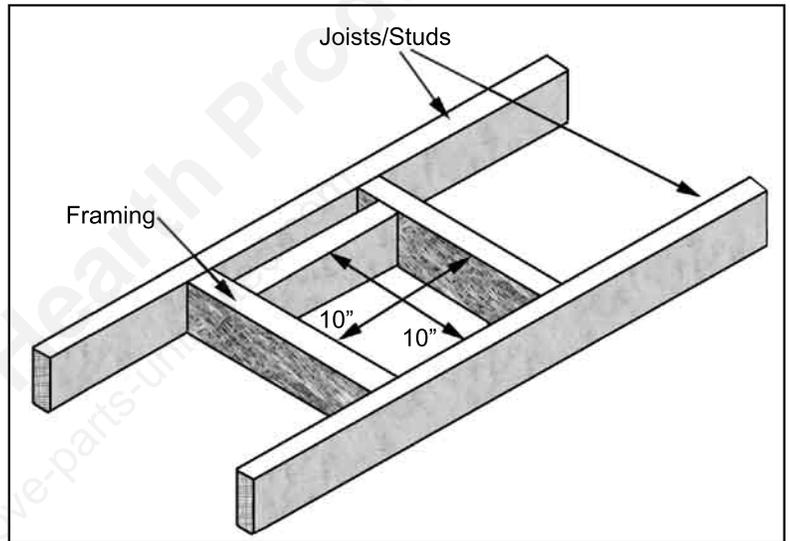
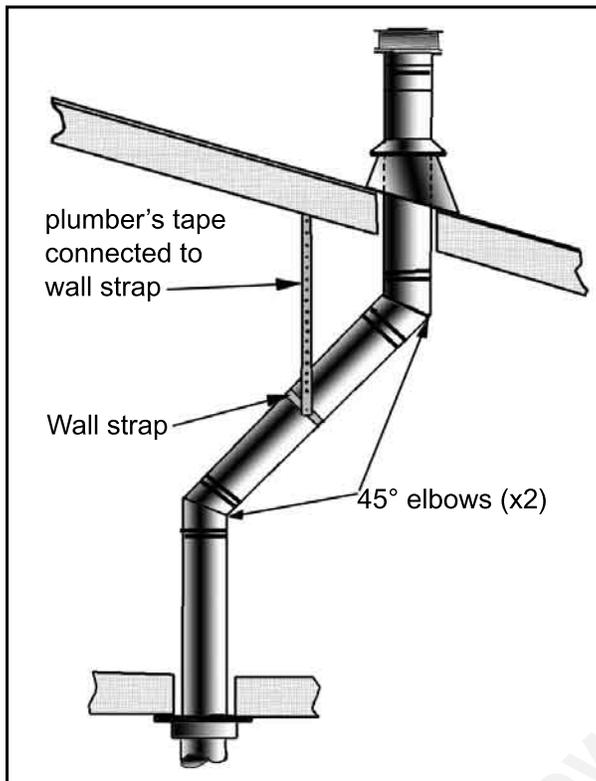
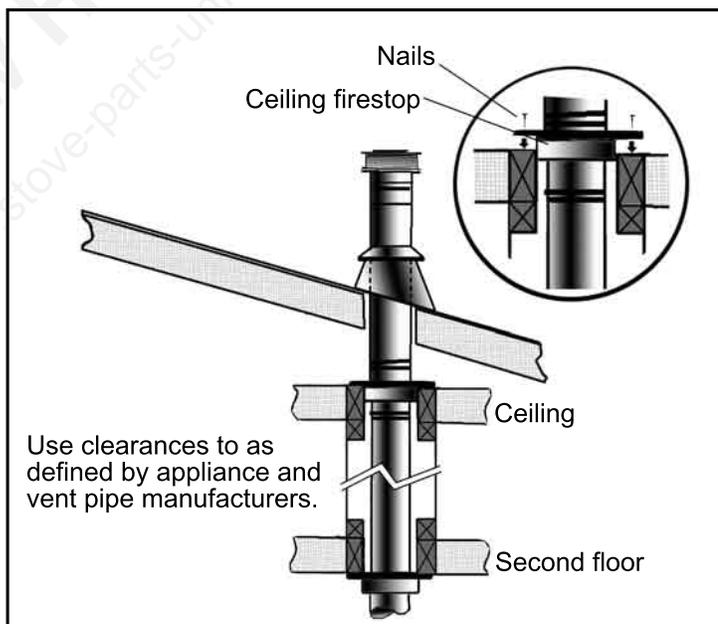

Figure 21. Vent Framing Through Wall/Ceiling.
Figure 28: Use of Wall Straps.
Figure 29: Multi-Story Vent Pipe Installation.
A 1 inch (2.5 cm) clearance to combustibles must be maintained around any vertical vent pipe. Around a horizontal vent pipe, the clearance to combustibles should be 2 inches (5 cm) above and 1 1/2 inches (4 cm) on the sides and bottom. When combustible materials are directly above a 90° elbow, 3 inches (7.6 cm) of clearance are necessary. A 10 inches (25 cm) x 10 inches (25 cm) frame will assure the proper support and spacing for the vent pipe as it passes through the wall. Installations in Canada require that a wall thimble be used for passing through walls and ceilings, see Figure 21. All sealing and vapour barriers must comply with local building codes.
Step 3. With the pipe in the correct position and attached to the fireplace, mark the wall for a 10 inches (25.4 cm) x 10 inches (25.4 cm) square hole (see Figure 21). The center of the hole should match the center line of the horizontal pipe. Cut and frame the hole in the exterior wall where the vent will be terminated. If the wall being penetrated is made of a non-combustible material (i.e. masonry or concrete) a 7 inches (17.8 cm) hole is acceptable.
Step 3. To install the Round Support Box/Wall Thimble in a flat ceiling, cut a 10 inch (25.4 cm) square hole in the ceiling, centered in the hole drilled in Step 2. Frame the hole as shown in Figure 21.
- (1) If an offset is necessary in the attic to avoid obstructions, it is important to support the vent pipe every 3 feet (914 mm), to avoid excessive stress on the elbows, and possible separation. Wall straps are available for this purpose (see Figure 28).
- (2) When ever possible, use 45° degree elbows instead of 90° degree elbows. The 45° degree elbow offers less restriction to the flow of flue gases and intake air.
- (3) For multi story installations; a ceiling firestop is required at the second floor, and any subsequent floors (see Figure 29). The opening should be framed to 10" (254 mm) x 10" (254 mm) inside dimensions, in the same manner as shown in Figure 21.
- (4) Any occupied areas above the first floor, including closets and storage spaces, which the vertical vent passes through, must be enclosed. The enclosure may be framed and sheet-rocked with standard building materials. However consult the appliance manufactures installation instructions for the minimum allowable clearance between the outside of the vent pipe, and the combustible surfaces of the enclosure. Do not fill any required air spaces with insulation.